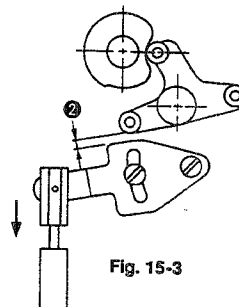

Fig. 15-3
- Confirm that clearance ② is provided when the thread trimming cam is in the position illustrated in Fig. 15-3.